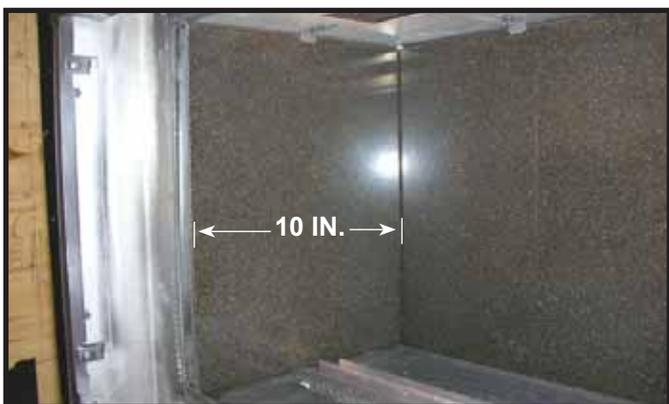

Figure 13. View of Back and Side Pieces Installed.
- Slide side pieces into place from the front and hold in place while installing the angle tabs and screws provided. The correct orientation for the side pieces is 10 inches wide by 16-7/8 inches high. Use retaining tabs, one on each side, to secure each side piece. See Figure 13.